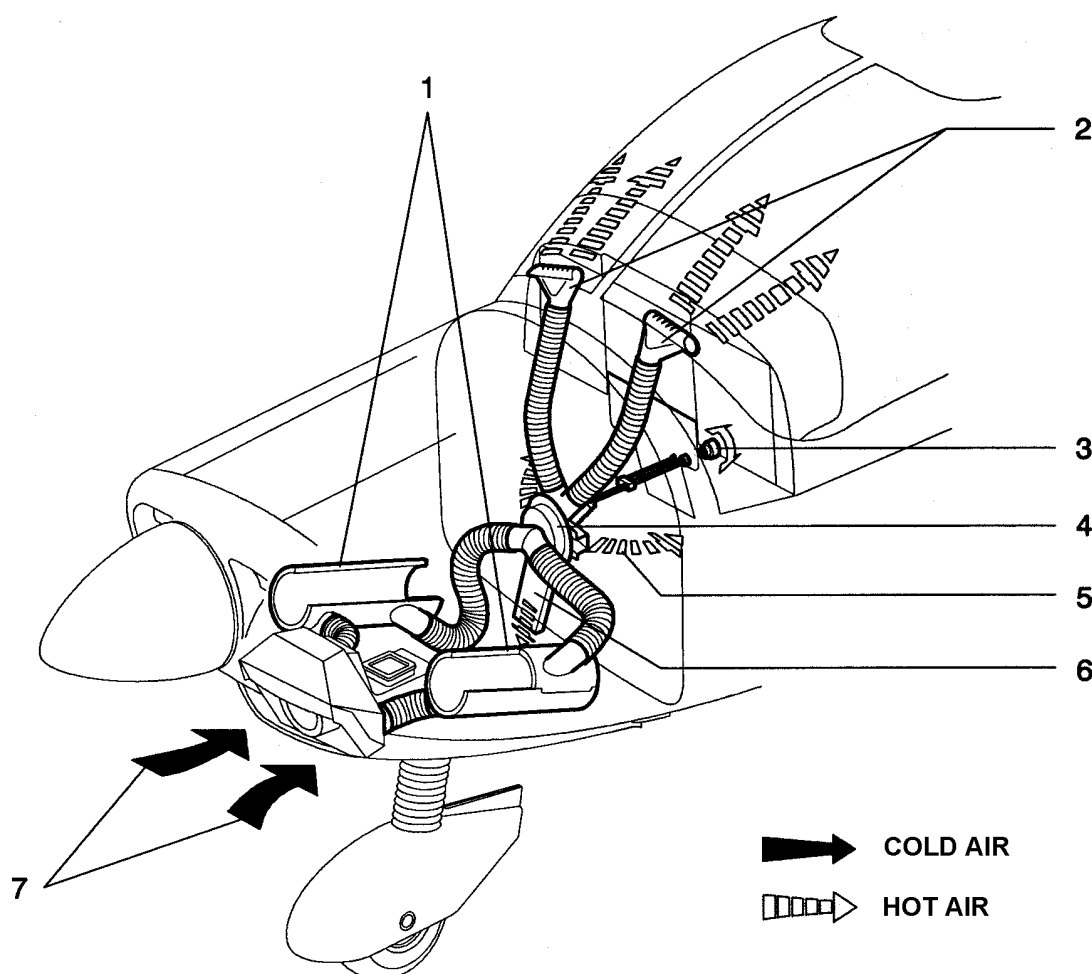

Fig. 7-20 Cockpit Heating
Ram air passes (7) the inlet in the front part of the engine bottom cowling in two heat exchangers (1), mounted on the exhaust manifold (Fig. 7-20). Here the air is heated and depending on adjustment of the rotary slide valve in the regulation chamber (4), the air flows into the cockpit or is bled through a channel (6) on the firewall beneath the aircraft. The rotary slide valve is controlled by means of a chain from the heating regulator handle (3), controlled by turning the same handle which the ventilation is controlled with located under instrument panel.